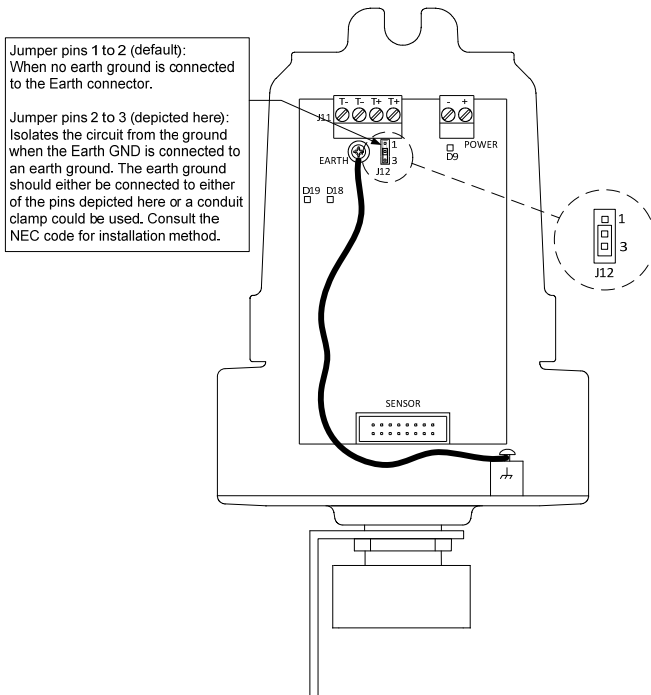

Figure 12: Grounding the electronic board
1. Connect the EARTH connector to the ground connector as shown in Figure 12.